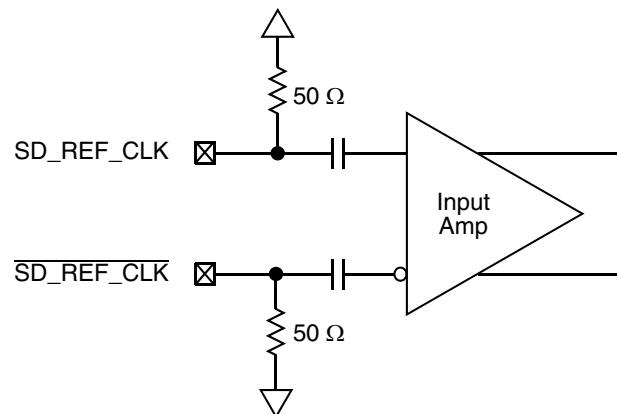

Figure 39. Receiver of SerDes Reference Clocks
- The SD_REF_CLK and $\overline{SD_REF_CLK}$ are internally AC-coupled differential inputs as shown in Figure 39. Each differential clock input (SD_REF_CLK or $\overline{SD_REF_CLK}$) has a 50- Ω termination to SCOREGND followed by on-chip AC-coupling.